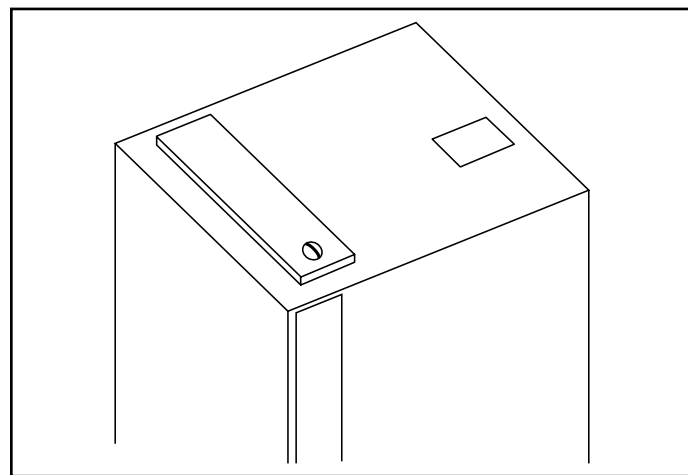

Figure 5. Secure Filter Access Panel
- For all units except 3-ton models, position filter access panel to close off top return opening. Secure at rear using two sheet metal screws. Secure in front using knob. See Figure 5.